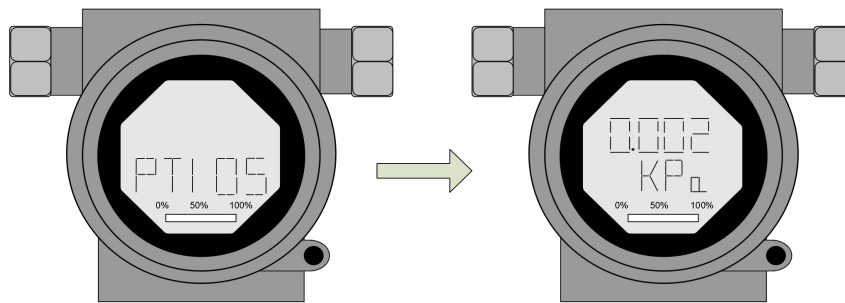

Figure 7.13 PA intelligent transmitter recovery data to the factory value
**RST jumper:** reset jumper to restore instrument data to factory value with the same function to restore factory value data in section 5.4. The operation process is as follows: First, turn off the instrument power supply, and then insert the jumper into the RST position to repower the instrument. Then, the LCD screen is shown in Figure 7.13, indicating that the instrument data has been restored to the factory value.